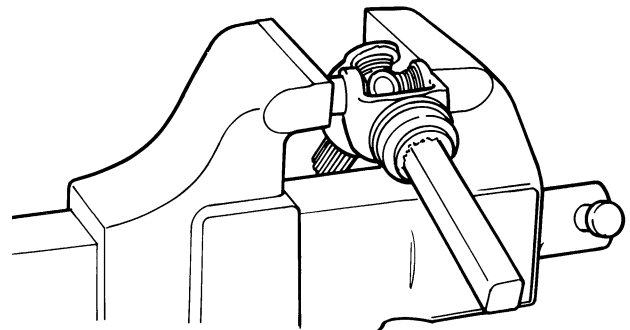

Figure 11
4. When the bearing cups are flush with the end of the yoke loosen the vise and place the smaller socket against one of the bearing cups and press it in until the snap ring can be replaced, as shown in Figure 11.